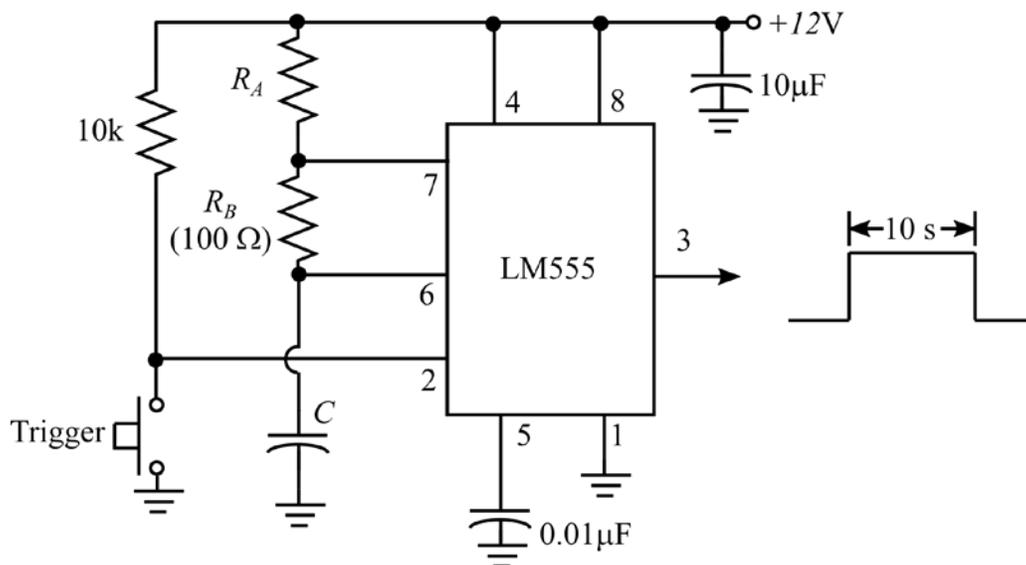
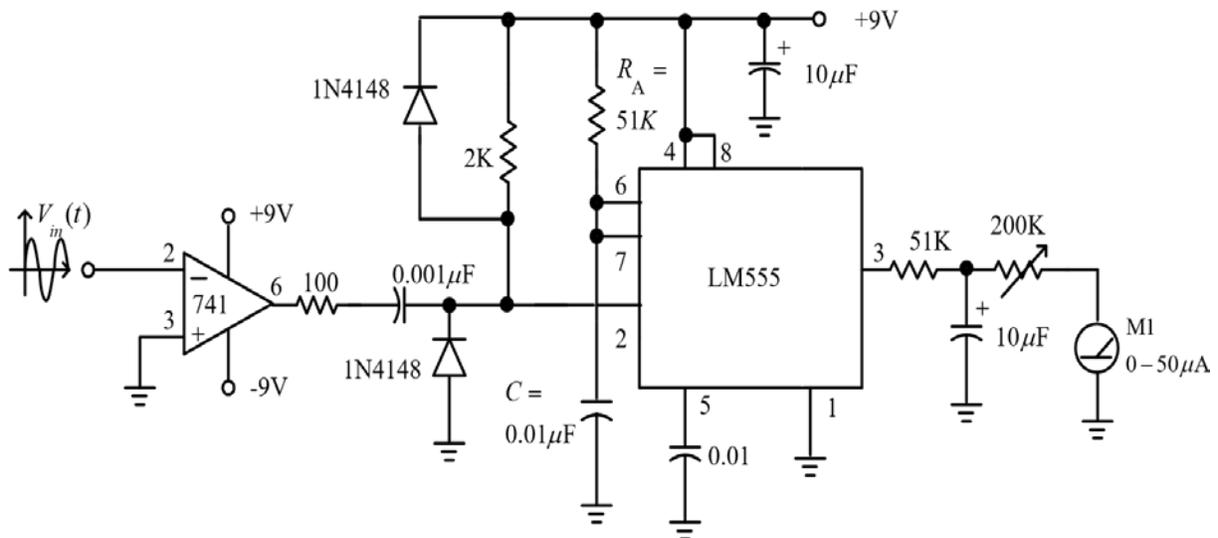

Figure 1: Monostable multivibrator.
Figure 3: Frequency-to-voltage converter.
1. **Design a monostable multivibrator (Figure 1) (one-shot) that will deliver a pulse of approximately 10 seconds when triggered.** The nomograph of *Figure 3 in the data sheet (page 7)* as a guideline for choosing either R_A or C . Use the formula given or the nomograph to determine value of the other component. The circuit should look like the one below. Note that a bypass capacitor is used for the power supply and a resistor R_B should be used if the value of capacitance is large ($\geq 10 \mu\text{F}$). This will limit the capacitor discharge current when it is shorted by the internal transistor connected to pin 7.
1. Build the monostable multivibrator circuit shown in Figure 1. Apply power and check to see that the circuit works. Use the oscilloscope probe on the output (pin 3) to see the output go HIGH for 10 seconds, and then return to the LOW state (**save the shape of the resulting pulse showing on oscilloscope screen**). **Show the TA the operating circuit.** This circuit can be used to generate time delays from about 10 μs to several hours. Even longer times (days!) can be generated with additional circuitry.
Another circuit for experimentation is the frequency-to-voltage converter shown in Figure 3. This can be used to make a tachometer. The op-amp functions as a zero-crossing detector, triggering the one-shot at the beginning of each input cycle. The output pulses are averaged by an RC low-pass filter, so that the meter reading corresponds to frequency. With an oscilloscope here instead of the microammeter and resistor, look at the *average* voltage to confirm that it works. Vary the input frequency around 500 Hz to see if there is a linear relationship between frequency and average output voltage.